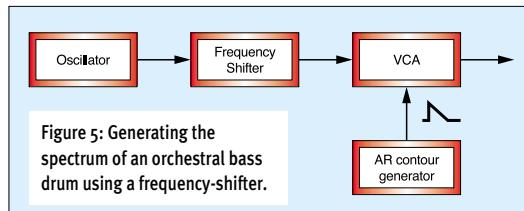

Figure 5: Generating the spectrum of an orchestral bass drum using a frequency-shifter.
— we might obtain something that sounds like a bass drum (see Figure 5 below).
Unfortunately, these low, quasi-harmonic modes are not the only important components in the sound of the drum. Because our ears are highly attuned to the frequency range that contains human speech, we are particularly sensitive to partials in the region of a few hundred Hertz. Inevitably (because the universe hates us and wouldn't want anything to be easy), the drum generates scores of partials between 250Hz and 1kHz, so we must also synthesize these. This isn't a problem, because we can recreate the required cluster of enharmonic modes using frequency modulation (FM) synthesis. We simply add to Figure 5 two oscillators — one modulating the other — plus a band-pass